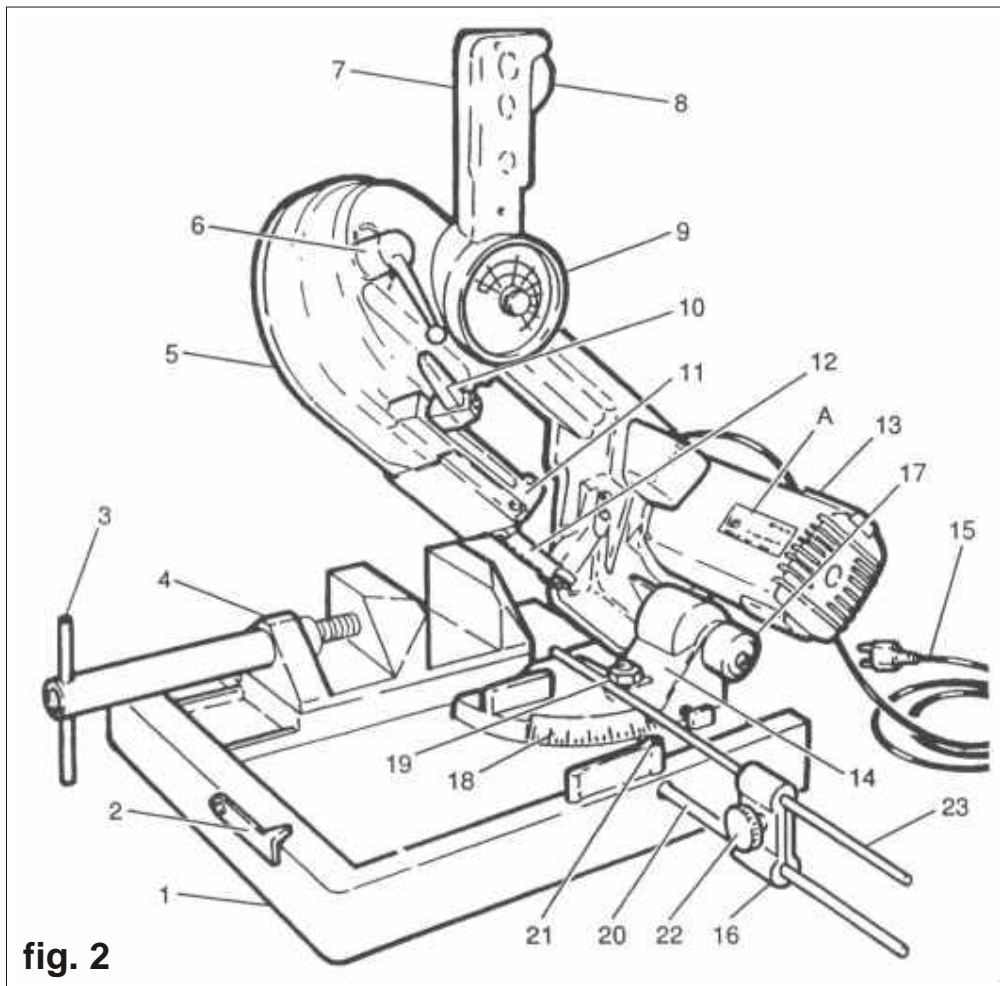

fig. 2
4.3 Components (Refer to fig. 2)
- fasten the blade arm in its end position using the mechanical lock provided (fig. 2 ref. 2);